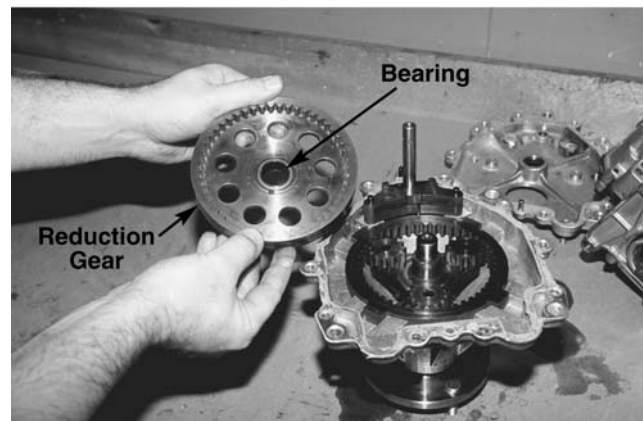

Figure 10-49
9. Remove the reduction gear and inspect for missing teeth or irregular wear patterns. See Figure 10-49.